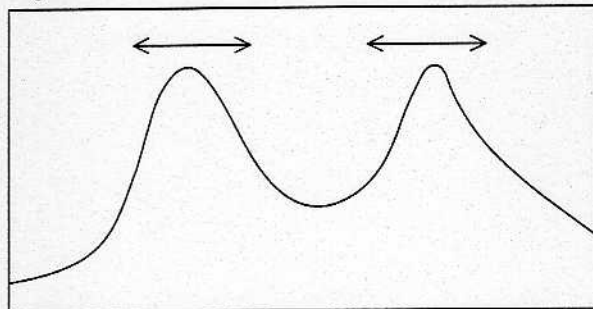

Fig. 17
- f) To fine-tune the IOT, adjust the frequency of the primary output cavity to give a peak approximately 4 MHz below centre frequency, and the secondary output cavity to give second peak approximately 4 MHz above centre frequency. It may be necessary to adjust the inter-cavity coupling to achieve this. The frequency response should resemble Fig. 17. The inter-coupling will result in movement of both peaks when either is tuned.
- f) To fine-tune the IOT, adjust the frequency of the primary output cavity to give a peak approximately 2 MHz below vision carrier frequency, and the second output cavity to give a second peak approximately 6 - 8 MHz above carrier frequency. It may be necessary to adjust the inter-cavity coupling to achieve this. The frequency response should resemble Fig. 17. The inter-coupling will result in movement of both peaks when either is tuned.